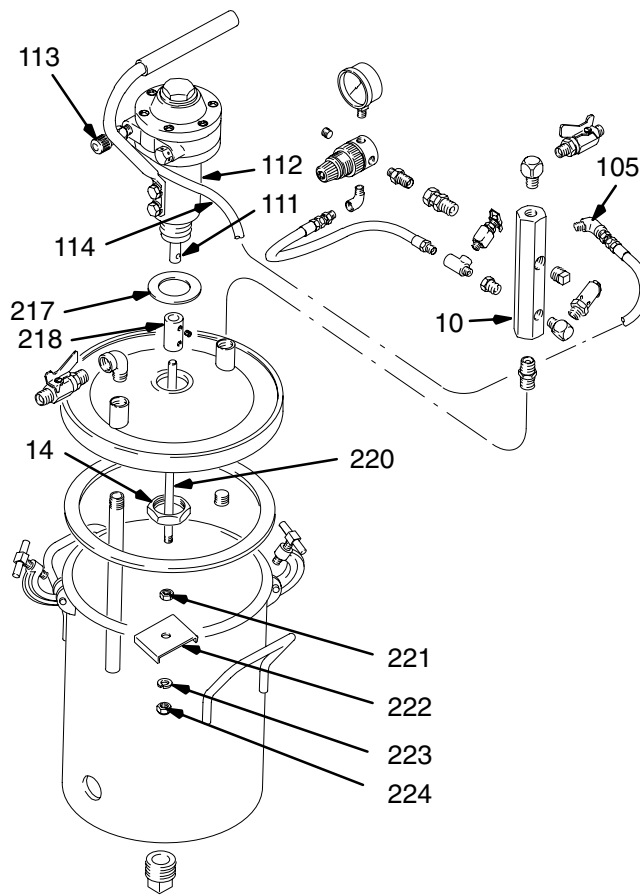

Fig. 4
3. Fit the gasket (217) under the coupling housing (112), and place the motor shaft (111) through cover's center hole. Screw the hex jam nut (14) onto the coupling housing, and torque it to 50 ft-lb (68 N-m). See Fig. 4.
4. Position the shaft coupling (218) over the motor shaft (111), and tighten the top setscrew into shaft. Insert the shaft (220) into the shaft coupling, and tighten the lower setscrew into the shaft. Thread on the nut (221), mixer blade (222), washer (223), and nut (224). See Fig. 4.
5. Connect the elbow (105) to the manifold (10) in place of plug. Connect the agitator hose (114) to the elbow (105). See Fig 4.